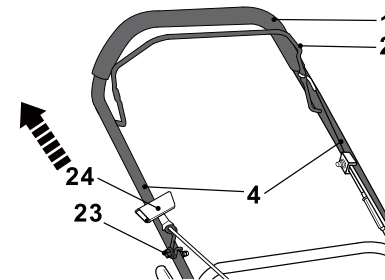

Fig. 12
1. Pull the brake bar (2) towards the handle (1).
2. Slowly pull on the recoil starter handle (24) and fit it into the rope guide (23) on the right hand side of the upper handle (4) during operation (Fig. 12). Do not remove the rope from the rope guide when starting the engine.